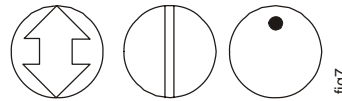

Figure 7: Damper Position Icons
1. Check that the damper blade is visually accessible or that its position is permanently marked on the end of the damper shaft as illustrated in Figure 7.